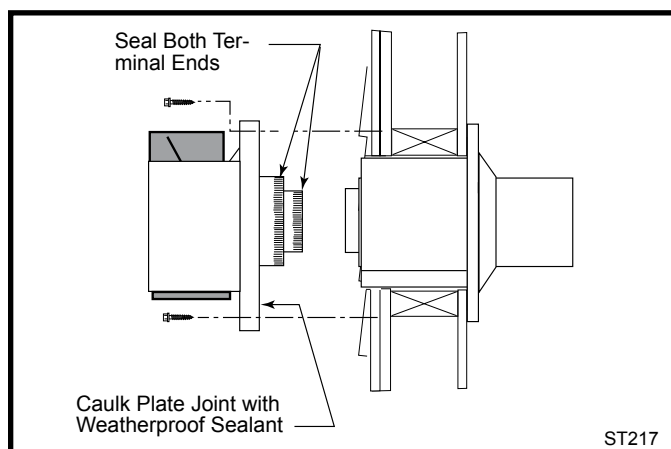

Figure 28 Install the vent terminal.
- 10. For both Vermont Castings Group and DuraVent Systems:** Install the vent terminal. (Figure 28) Apply high temperature sealant one inch from the ends of the inner and outer collars. Guide the inner and outer vent termination collars into the adjacent pipes. Double check that the vent pipes overlap the collars by 2". Fasten the termination to the wall with the screws provided, and caulk the joint with weatherproof sealant.